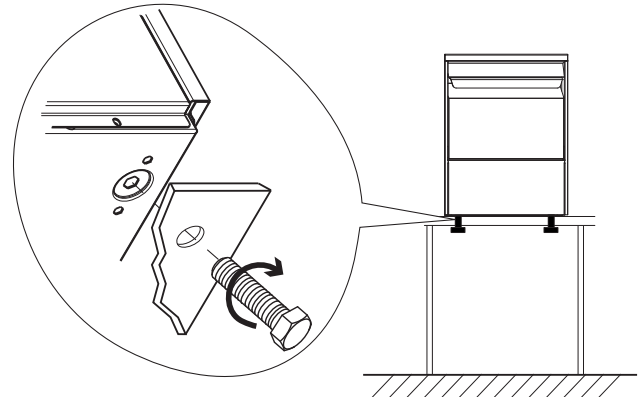

Figure 8
- Put the dishwasher on the support by matching the holes just made with the seats of the feet in the appliance bottom panel (Figure 8).